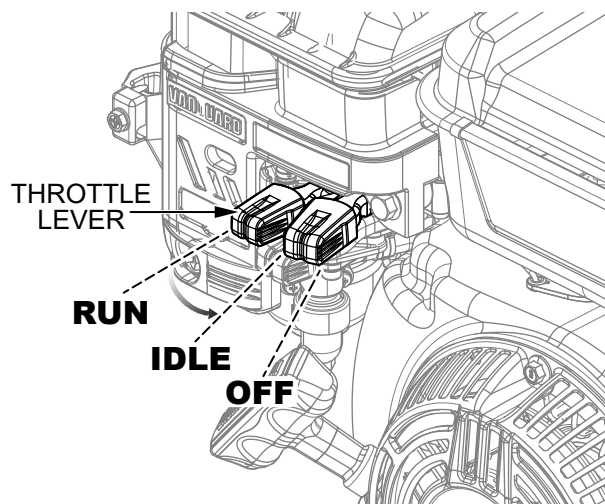

Figure 13. Throttle Lever (Idle)
1. Place the **engine throttle lever** in the **IDLE** position (Figure 13), and run the engine for three minutes at low speed.